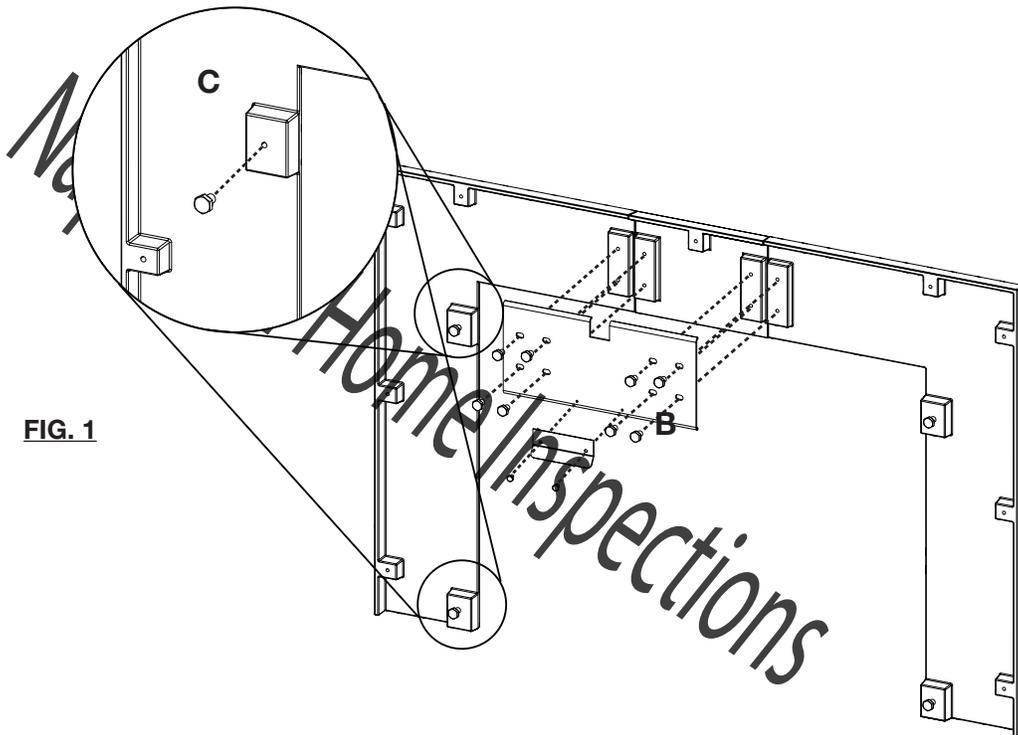

FIG. 1
- B. Line up the casting holes with the casting bracket holes and secure in place using the screws. Secure the casting support to the casting bracket using the screws (FIG 1, B).
- C. Loosely secure the screws to the holes in the side casting (FIG 1, C). Repeat on the other side.
- A. Line up the casting holes with the right retaining bracket holes and secure in place using the 1/4-20 hex-head screws. Repeat on the left side, using the left retaining bracket (FIG 1, A).
- B. Thread the 1/4-20 round-head screws approximately half their length into the keyed bracket (FIG 1, B).